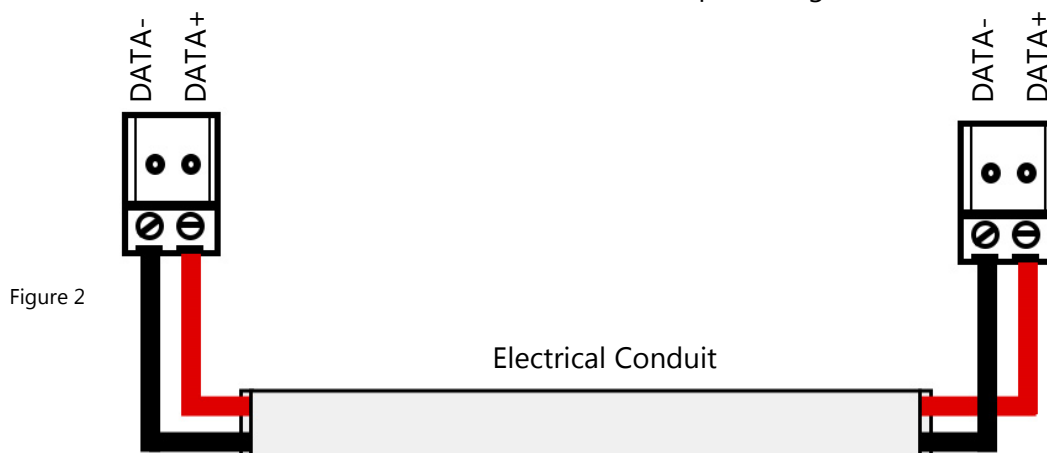

Figure 2
- A. Locate the DATA- and DATA+ green terminal on the bottom left of the circuit board. (Figure 2)